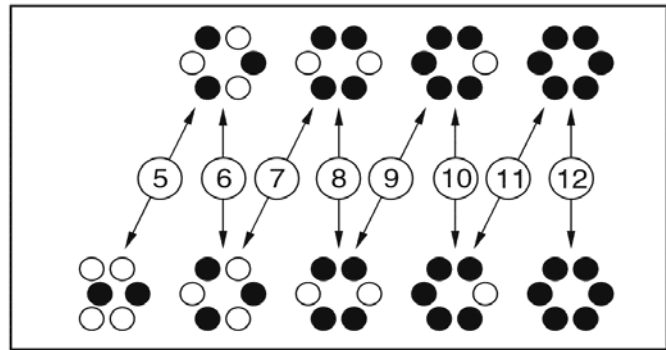

Fig. 12
5) Spring return actuators require that you replace the springs back into the piston pockets. Fig. 12 illustrates the proper spring installation for both sides of the actuator.